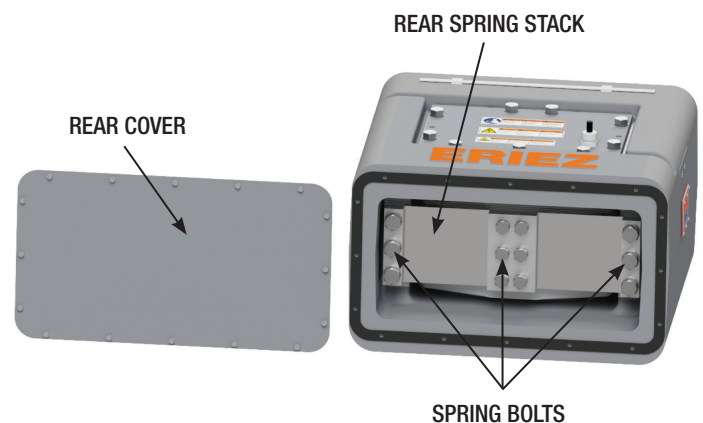

Figure 13
In changing tuning springs, put the clamp blocks (**Parts 12 and 13 on Parts List**) back on the same way they came off (**See Figure 13**) to ensure smooth clamping surfaces against the springs. All clamping bolts (**Parts 30-34 and 36-40**) should have a thread engagement of not less than one and one-half times the bolt diameter and should be drawn very tight (**See Bolt Torque Information in Table 3**). If "bottoming" of bolts should occur, washers of sufficient thickness to prevent "bottoming" should be used under the bolt heads.
2. Remove rear spring bolts, spring clamps, spacers, and springs (**See Figure 13**).